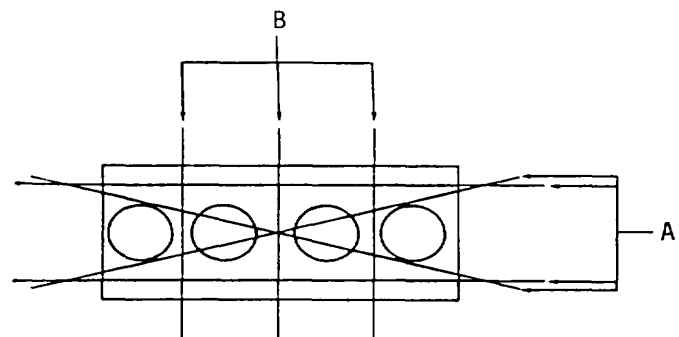

Figure 13-8.
3. Using a 24 inch straight edge and feeler gage, check flatness of combustion surface. Measure surface along each edge and both diagonals indicated as points "A" (Figure 13-8). If more than 0.006 inch from flat, discard and replace head. If less than 0.006 inch from flat, refer to step 11 for machining instructions to correct warpage. Check areas between valve ports shown as points "B" must be 0.003 inch or flatter.